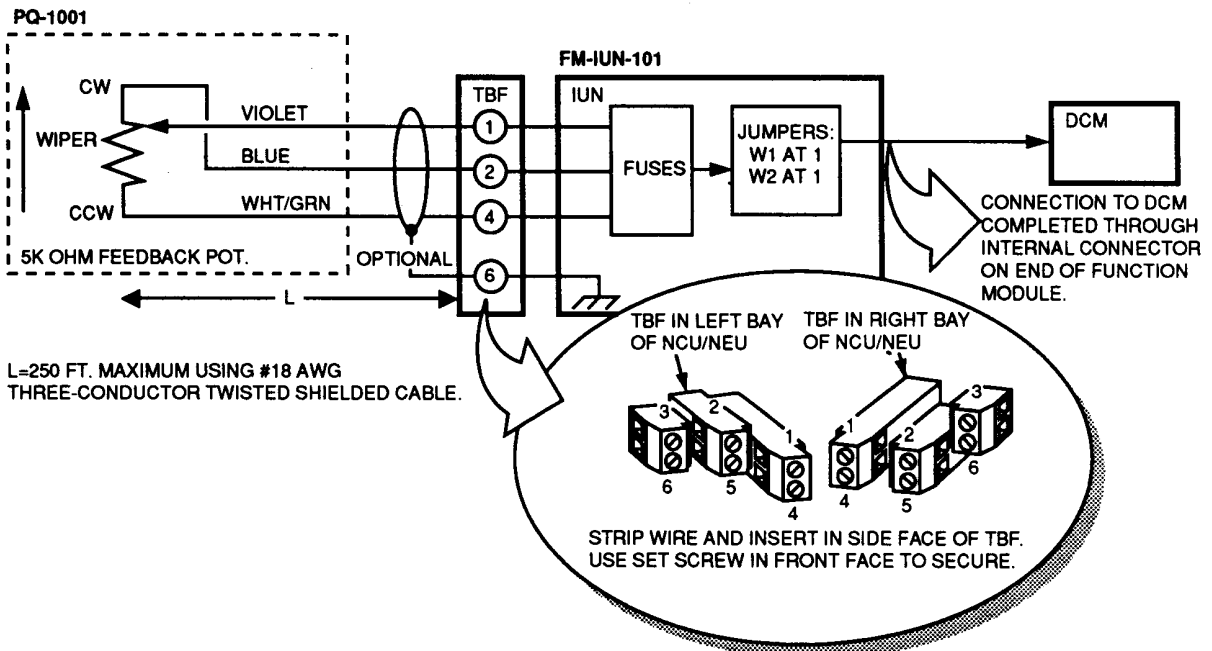

Figure 4: PQ-1001 in Application with the Metasys Facility Management System
- For applications (like post offices) where position indication for each damper is required at the head end, use the PQ-1001 with the Metasys™ FM-IUN as shown in Figure 4.